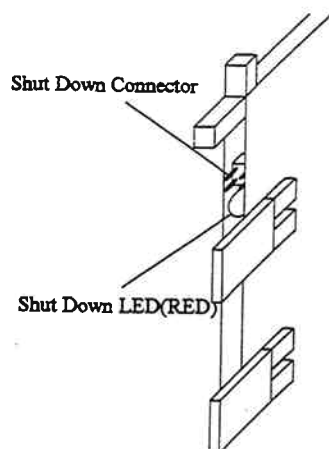

Fig. 3.7.5.3.2-1 Shut Down LED
- a. Confirm that the Shut Down LED lights.(Fig. 3.7.5.3.2-1) If the LED does not light, see Connection of Shut Down Jumper(INST03-2600).